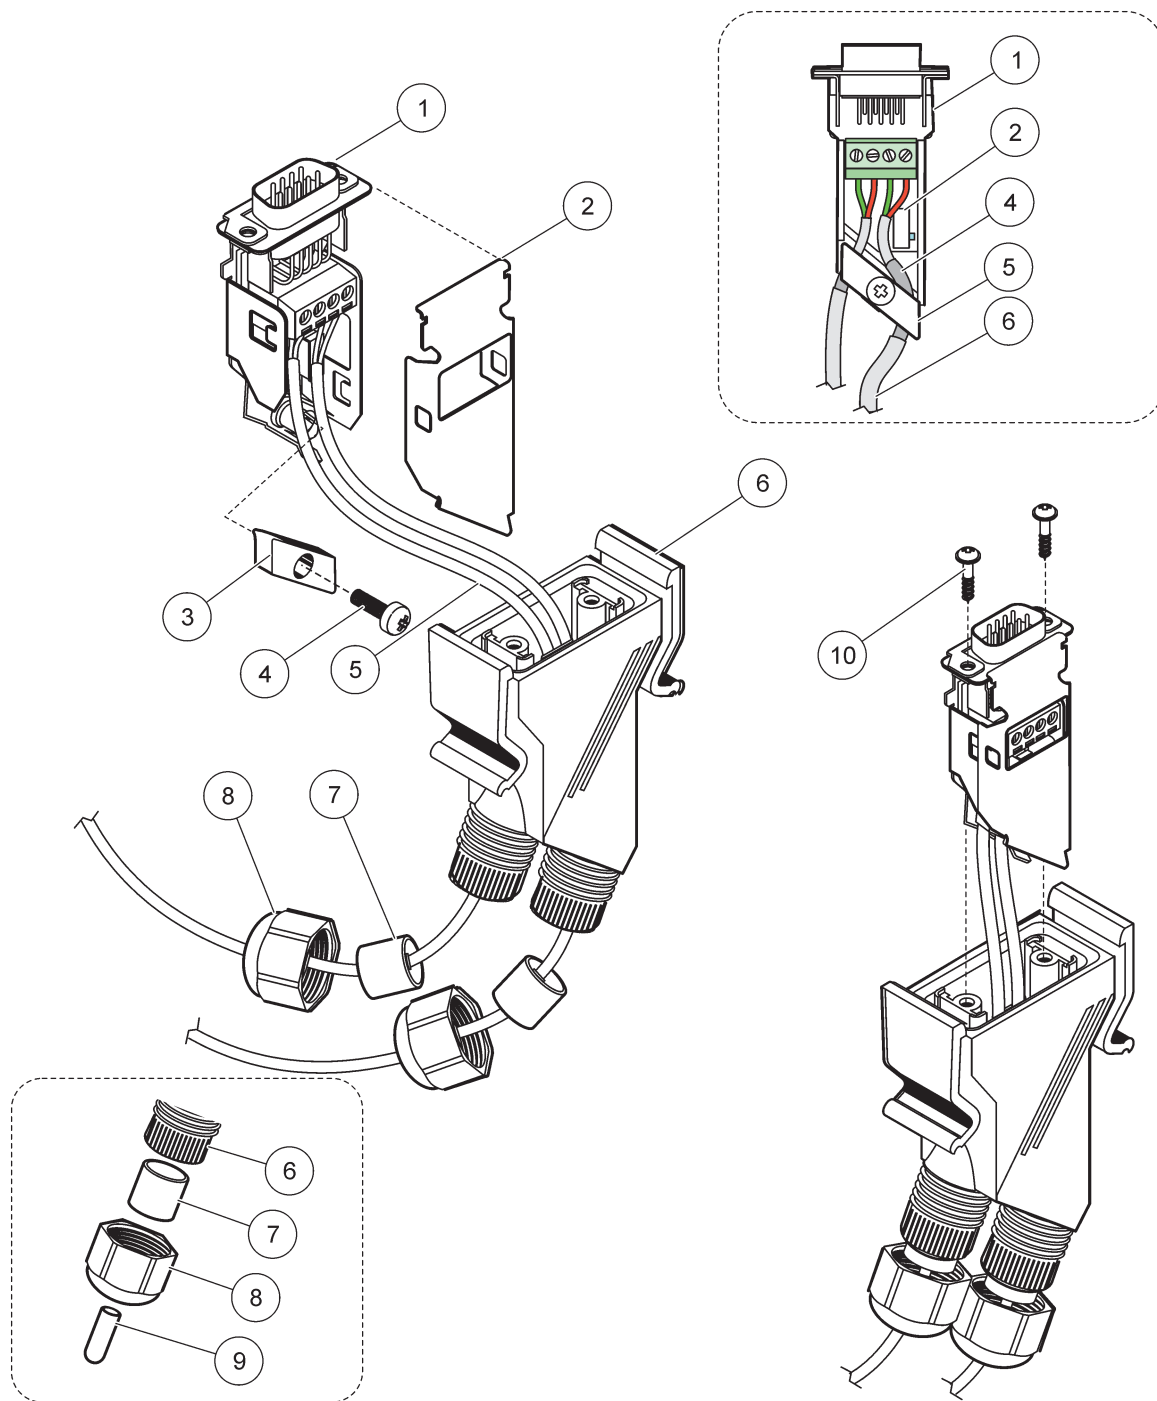

Figure 31 Connecting the network connector to the SC1000 network terminating resistor
- 2. Feed the cable through the union nut, rubber seal, and connector housing (Figure 31).
Note: When using the connector with the last module on the network segment, one union nut remains unused. Seal the union nut with the plug supplied. Refer to Figure 31.
² Use this plug if the cord grip is not used, refer to inset in Figure 31.